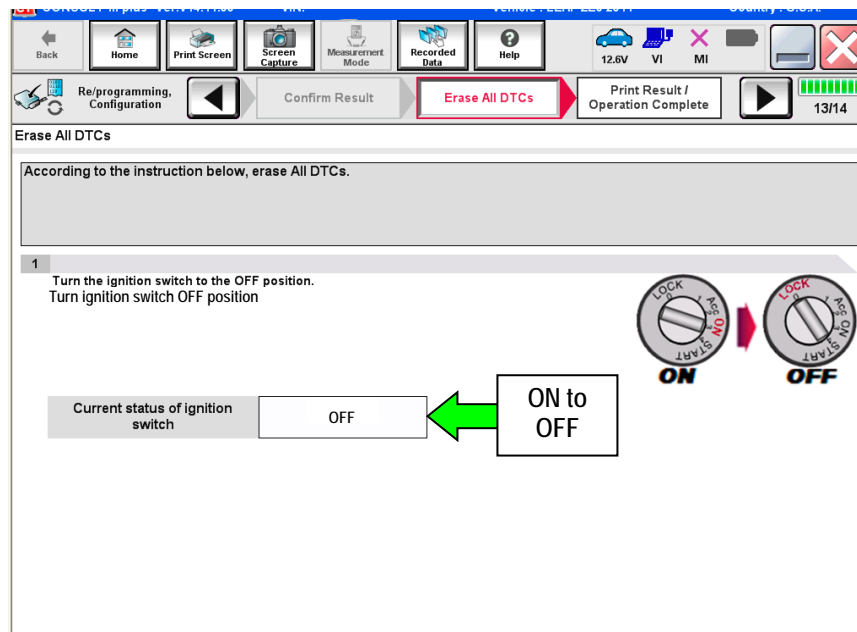

Figure 19
- The screen in Figure 19 will read OFF after pressing the power switch once.